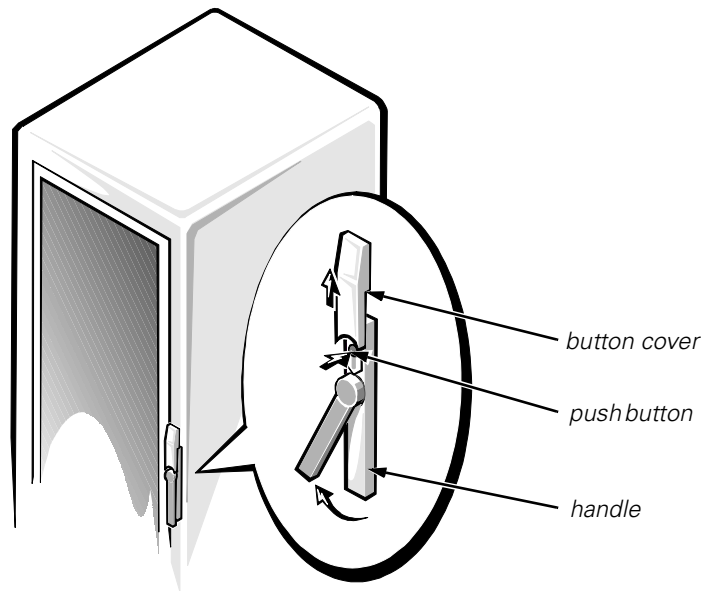

Figure 2. Opening the Latch on the Door
1. **Open the latch on the front door (see Figure 2).**